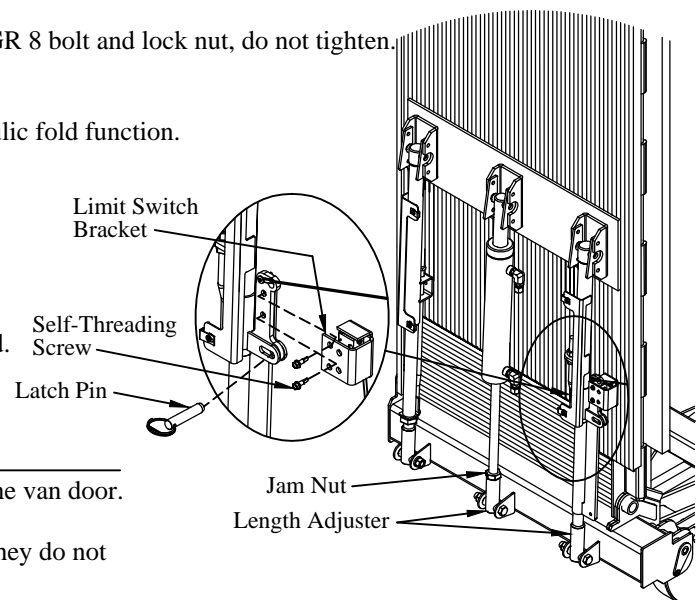

Figure 15: Platform latch and adjustment.
- 4. Install** the limit switch bracket on the passenger side support arm with two (2) #12 self-threading screws. See Figure 15 for bracket shipping location. Make sure that the limit switch is not in the pushed position (Figure 15).
- 3. Support** the platform to keep it from falling or hitting the van in the next steps (Figure 15).